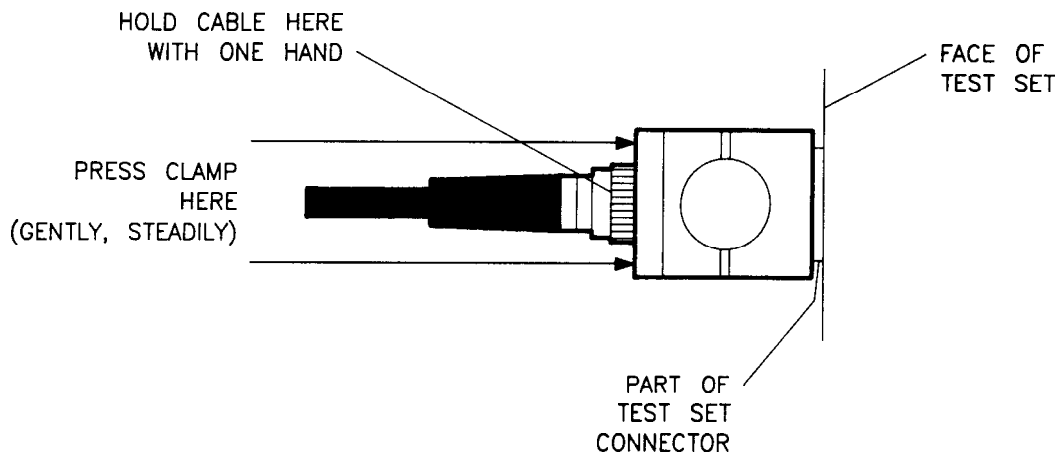

Figure 3-8. Mating the Clamp and Nut Flats
- See Figure 3-8. Hold the cable with one hand and with the other, press the clamp gently and steadily while wiggling the clamp straight over the RF connector and onto the test port connector nut. The internal flats in the clamp must fit over the flats on the test port connector nut. Try not to rotate the clamp as you do this or the RF connection may be loosened.